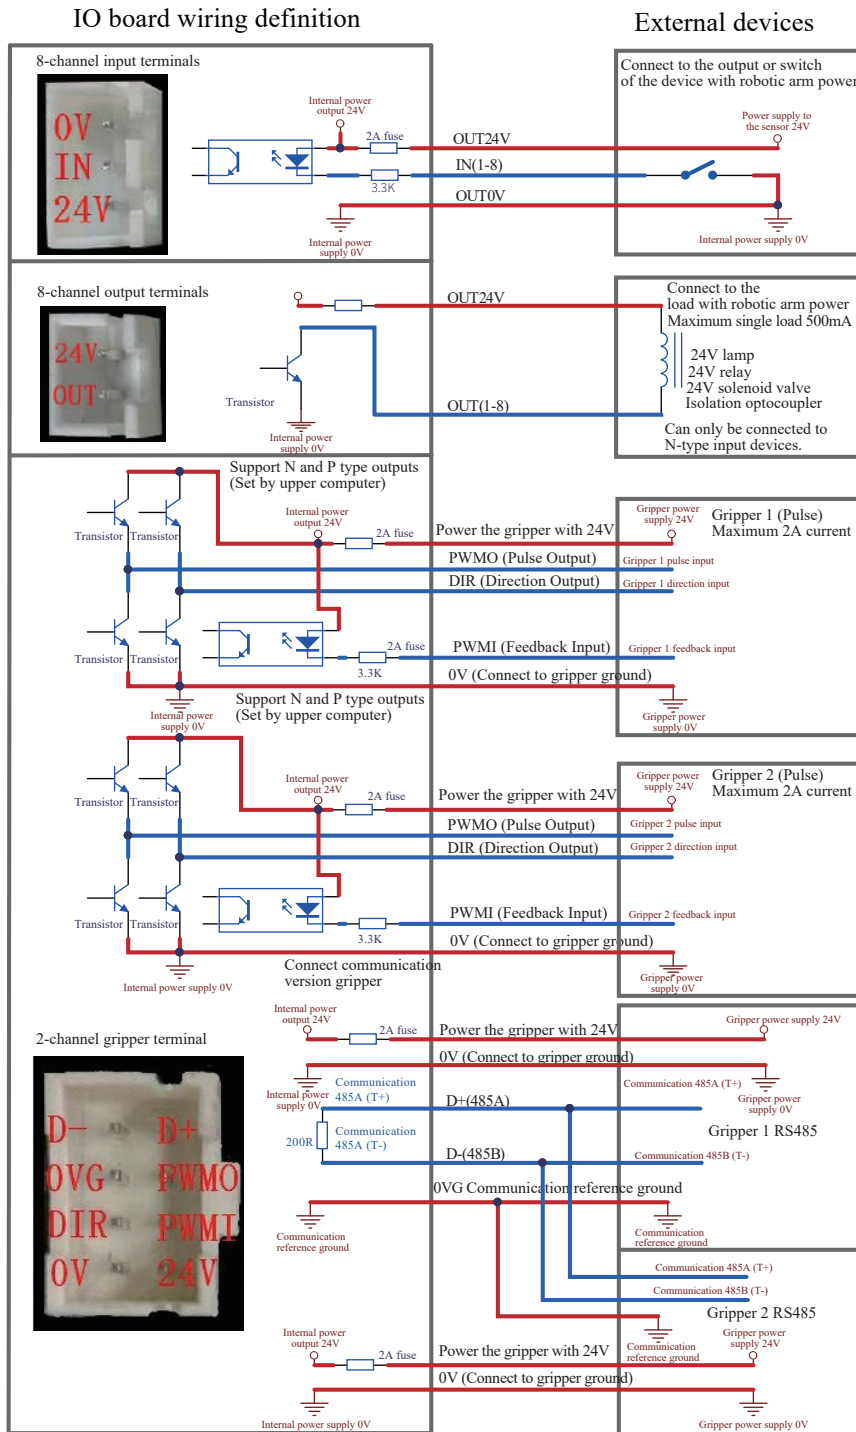

Figure 8
10. Internal I/O board wiring definition (as shown in Figure 8)